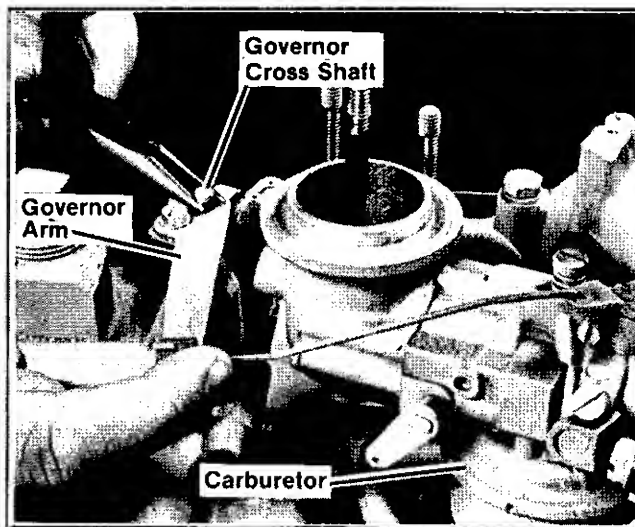

Figure 8-41. Governor Arm Adjustment
6. With a pliers turn governor cross shaft clockwise as far as it will go. Pull governor arm back away from carburetor as far as it will go, then tighten governor clamp nut (see Figure 8-41).